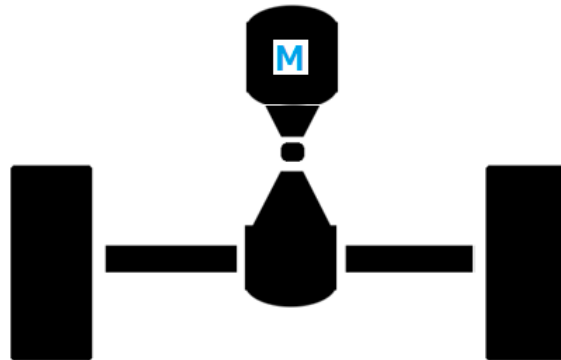
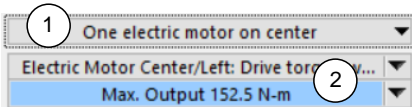

Figure 42: Differential axle with one electric motor on center drive shaft.
Figure 46. Link for an electric motor at the differential center.
CarSim and TruckSim support two different electrified differential axles: one has an electric motor on the center drive shaft and the other has two motors on both sides of the wheel shafts, shown in Figure 42 and Figure 43, respectively.
The differential axle with one electric motor (Figure 42) has a conventional differential gear which can be free, locked, viscous and/or have a torque sensitive clutch. The electric motor is connected to the center drive shaft and the motor torque is electrically controlled.
2. **One electric motor on center:** a dataset link for an electrical motor ② appears (Figure 46) and the electric motor torque characteristics are specified. The location of the electric motor is in the center drive shaft as shown in Figure 42.